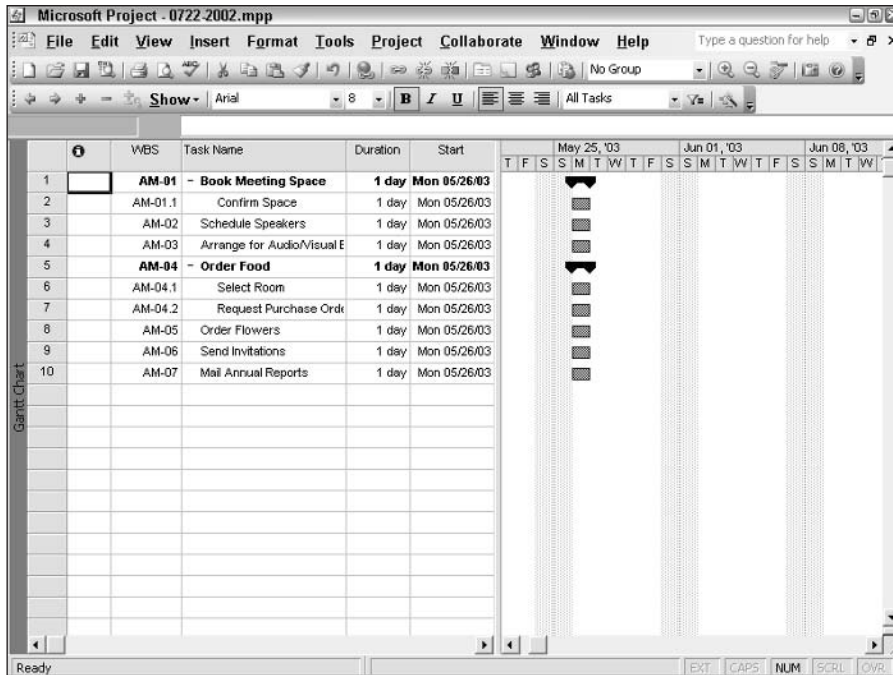

Figure 7-25: The WBS codes are again sequential after renumbering.
3. Click Yes. Project reassigns all WBS numbers, as shown in Figure 7-25.